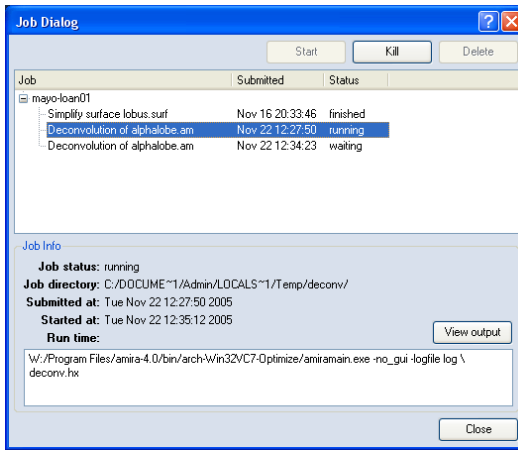

Figure 10.7: The Amira job dialog showing a pending deconvolution job.
- Press the *Submit* button of the deconvolution dialog. After a few seconds the Amira batch job dialog appears, compare Figure 10.7.